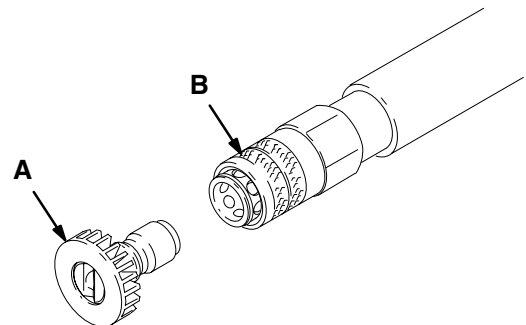

Fig. 2
3. Without holding your hand over the spray tip (A), pull back the quick coupler ring (B). Remove the current tip and/or install a different one, and then push back the ring. See Fig. 2.